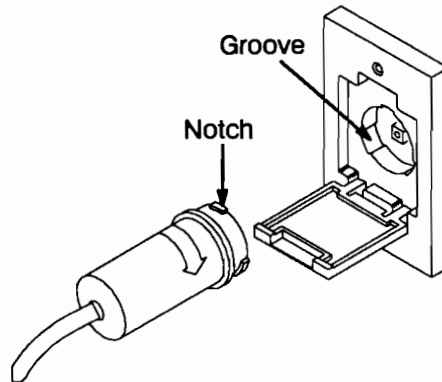

Figure 8-7. Connecting the Network Cable to the Connector Box
3. Align the cable plug notches with the connector box grooves. Turn the cable plug clockwise until it locks into place as shown in Figure 8-7.